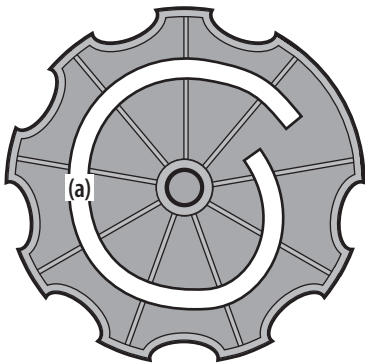

Figure 2-13
9. Then align the spiral (a) on the inside of the recliner knob with the recliner pin. Make sure the hub on the back of the recliner sits properly into the large holes of the side plate. See Figure 2-13.